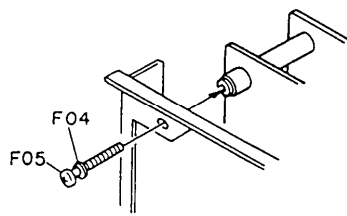
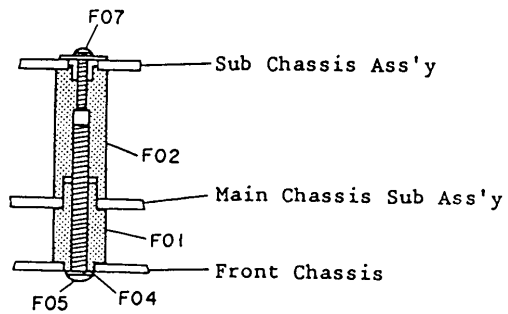

Fig. 4
Fig. 5
- (7) Mount the Mechanism Ass'y on the Front Chassis. Use F04 (4mm Spring Washer) and F05 to fix the replaced stud as shown in Fig. 4. (F06 is not used.) After completion, each part of the kit (Stud Ass'y) except for F06 is mounted as shown in Fig. 5.